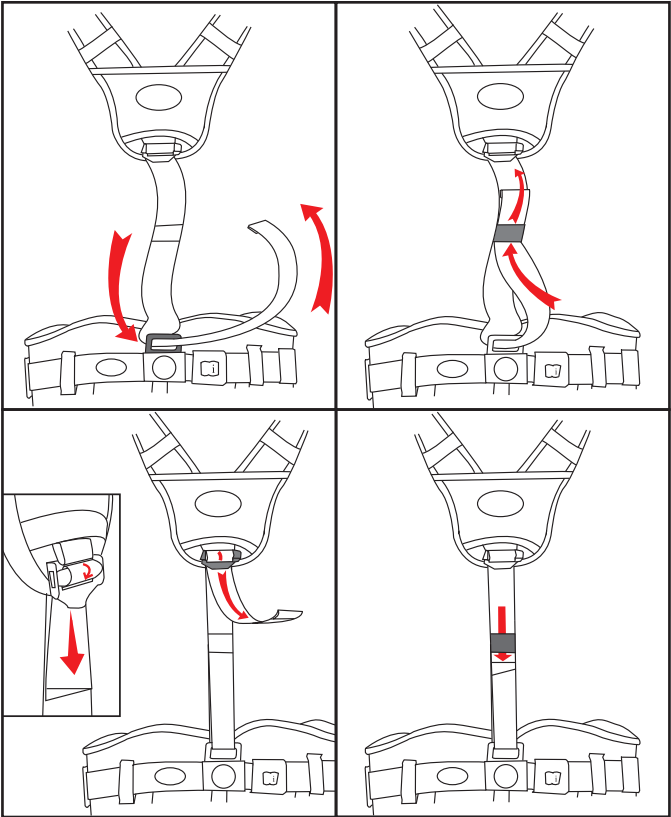

Fig. 1
2. Place around waist and hold in position on waist using your inner arms/elbows. Bend forward and pull belay loop and dee ring up through your legs using your right hand still holding waist in position. Fig. 1 & 2.
1. Take the back webbing strap of the chest harness and thread through the 2 bar buckle on the back sit harness ensure that the webbing is not twisted as in Fig1.